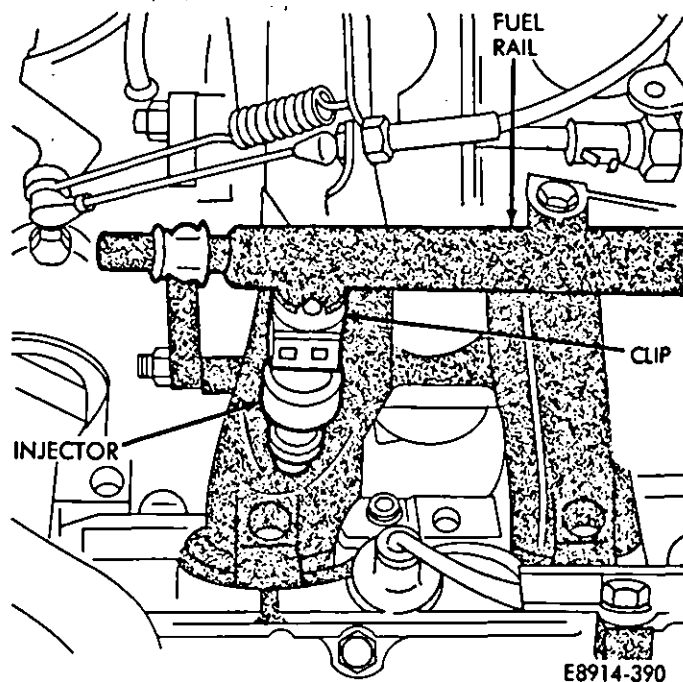

Fig. 19—Fuel Injector Removal/Installation
(1) Remove the fuel injector, fuel rail and regulator assembly. Refer to Fuel Injector/Fuel Rail/Regulator Assembly in this section.
(2) Remove clip holding fuel injector to fuel rail.
(3) Pull the injector out of the fuel rail (Fig. 19).
(1) Lubricate the injector O-ring with a drop of clean engine oil.
(2) Install fuel injector into fuel rail.
(3) Connect clip (Fig. 19).
(4) Install the fuel injector, fuel rail and regulator assembly. Refer to Fuel Injector/Fuel Rail/Regulator Assembly in this section.